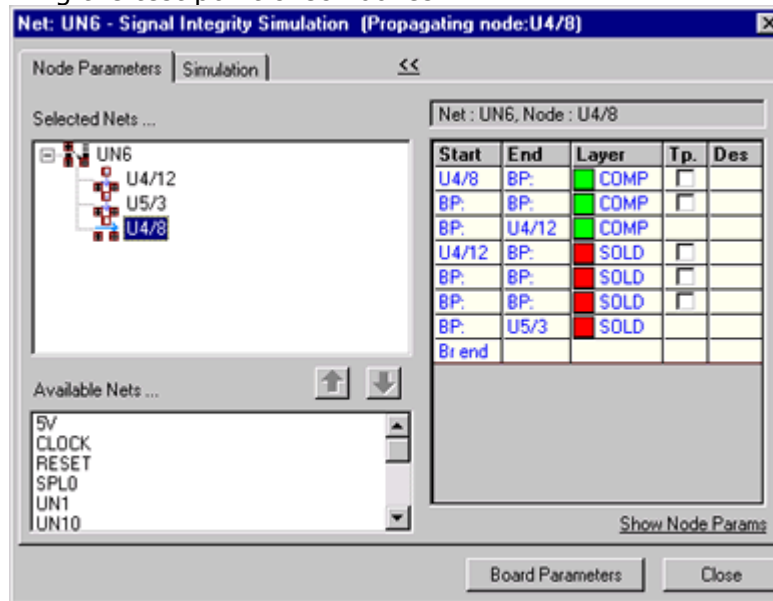

Fig. 9.9
8. The Trace Segment parameters of the driver node may be viewed by clicking on Show Trace Segments (Refer Fig.9-9). Test points may be placed on any of the bend points on the trace segments between the input and output pins by marking the test point check boxes.